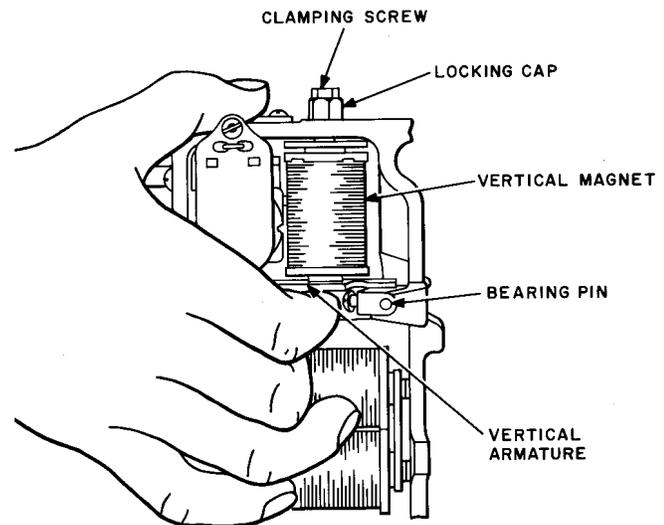

Fig. 16—Method of Supporting Vertical Armature While Replacing Bearing Pin
(2) Insert the new bearing pin from the left-hand side of the switch, guiding the vertical armature with the right hand as shown in Fig. 16 so that the pin engages the hole in the armature. After the pin has engaged the hole in the right-hand side of the armature, place the bearing pin clamp in position and adjust the armature and the clamp so that the pin enters the hole in the clamp. Tap with the hammer. When the pin is in position, tighten the bearing pin clamp screw and replace the armature spring on the "T" head of the armature spring adjusting screw.